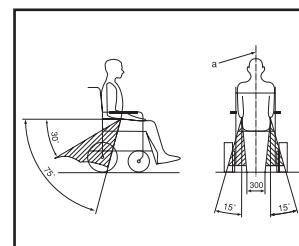

Figure 3
Removing the legrests (see fig. 3)
- The lap belt must be positioned low across the user's waist (see figure 3). The angle between the belt and the floor must be between 30° and 75° (a bigger angle is better).